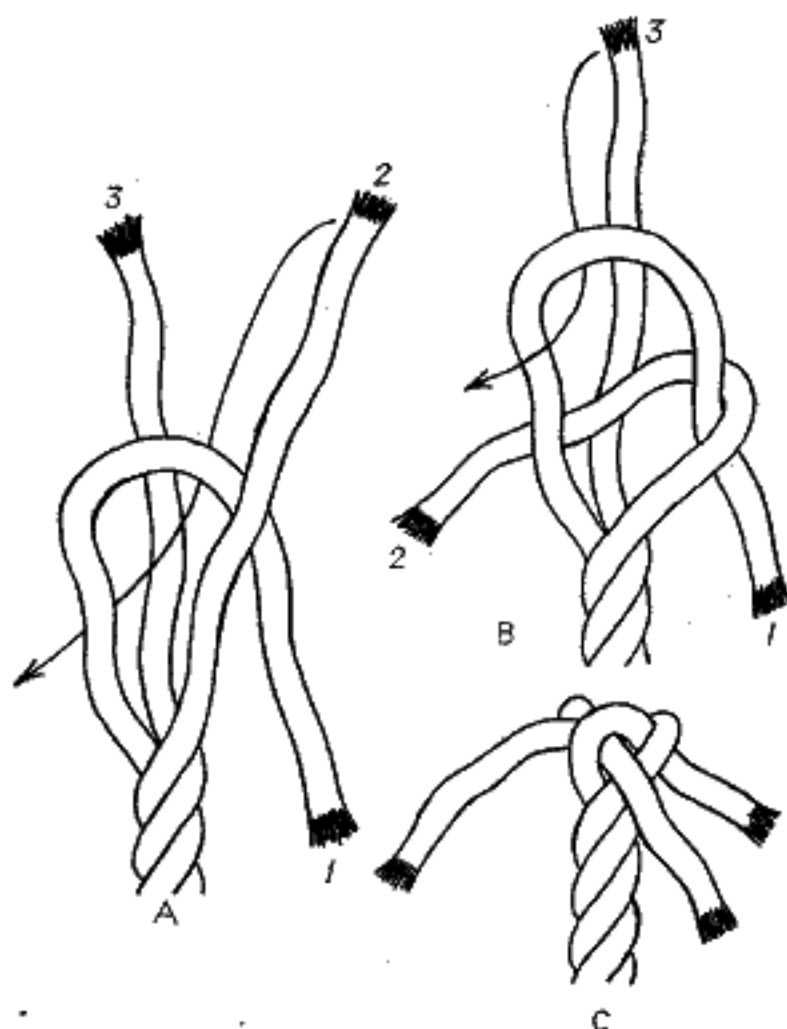

FIG. 319.—The crown knot.
2. Bring strand 1 down between strands 2 and 3, forming a bight (see Fig. 319).